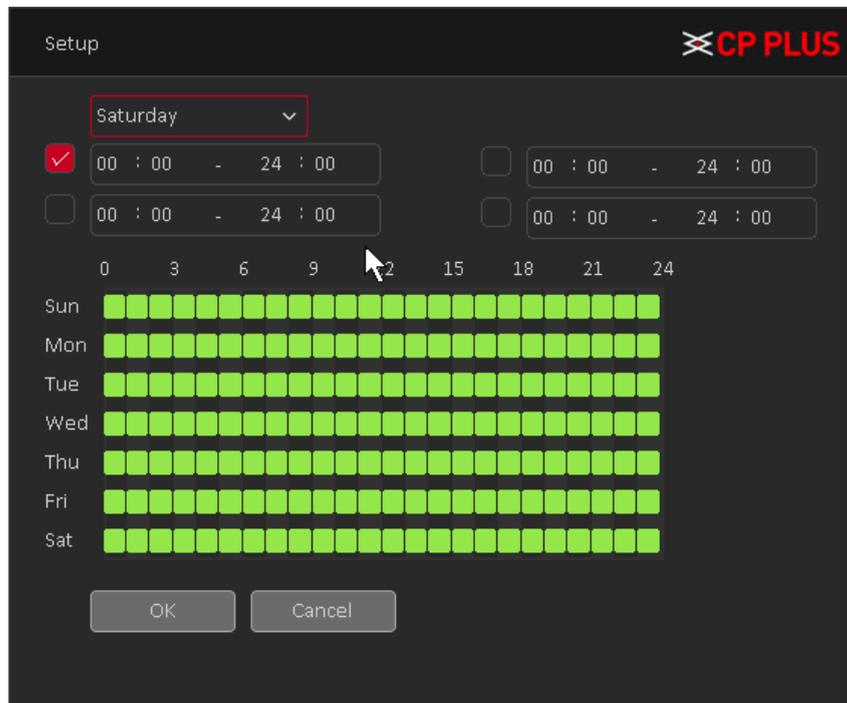

Figure 4.19
- **[Period]** User can also set the alarm time from Monday to Sunday every day 4 time periods, other time will not trigger IVS alarm information. See Figure 4.19.